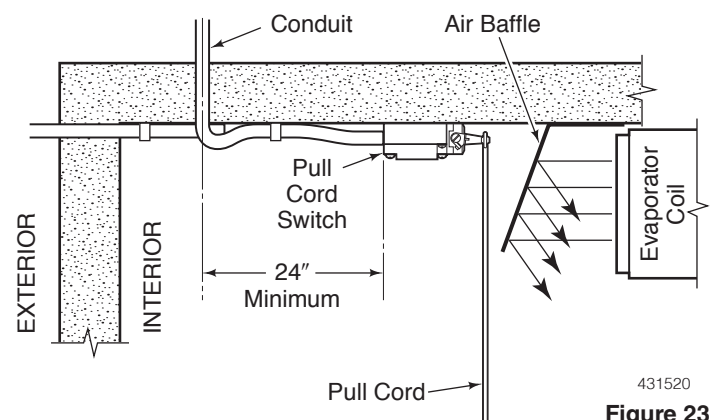

Figure 23
2. Mount the pull cord switch to the wall or ceiling using the switch mounting holes or the mounting plate provided. Locate the switches at least 24" from the conduit penetration through the ceiling or wall. See Figure 23.